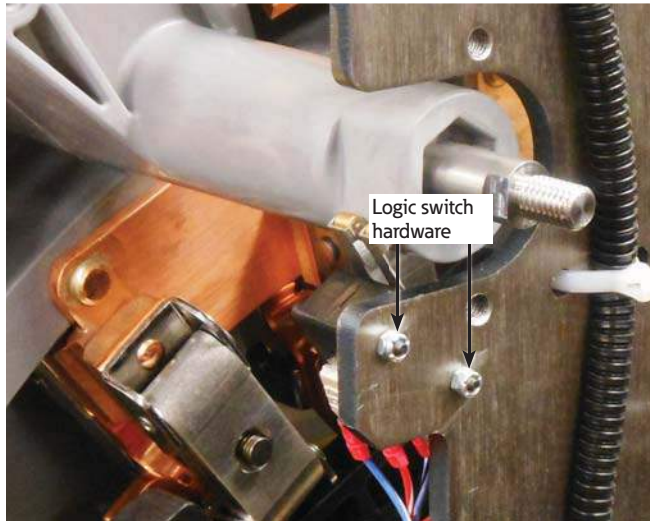
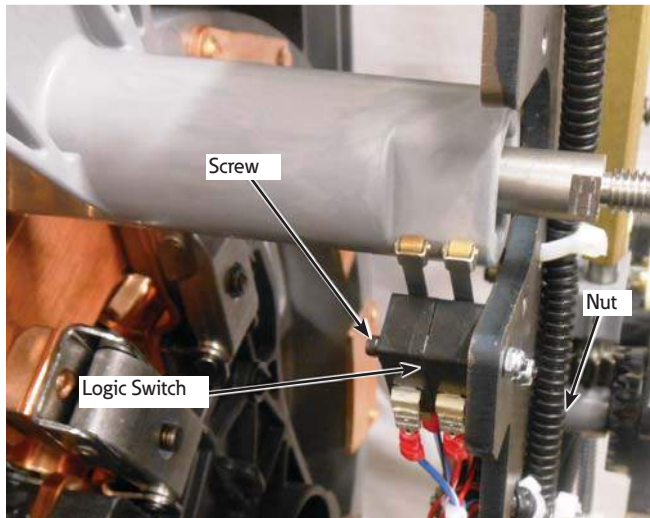

Figure 7. Reversing logic hardware
Figure 8. Removal of logic switch
6. Use a 3/32" Allen wrench and a 1/4" socket wrench to loosen and remove the self-locking nuts and logic switch mounting screws. See Figure 7 and Figure 8.